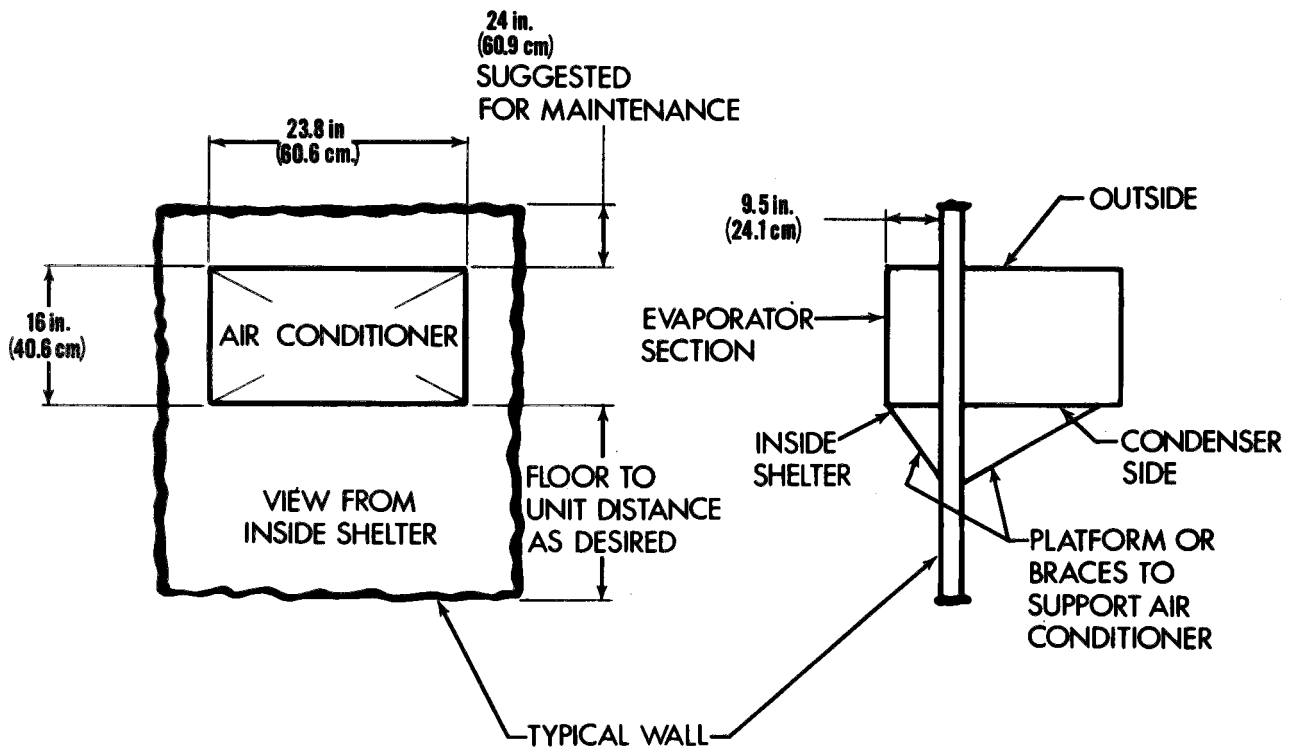

Figure 4-5. Typical Through the Wall Installation
(1) Shelter/Enclosure Preparation. The following information describes a typical through the wall type installation. You may want to alter these instructions to suit your specific application. See figure 4-5 for a through the wall installation that allows removal of the front and rear top panels for service with the unit installed.